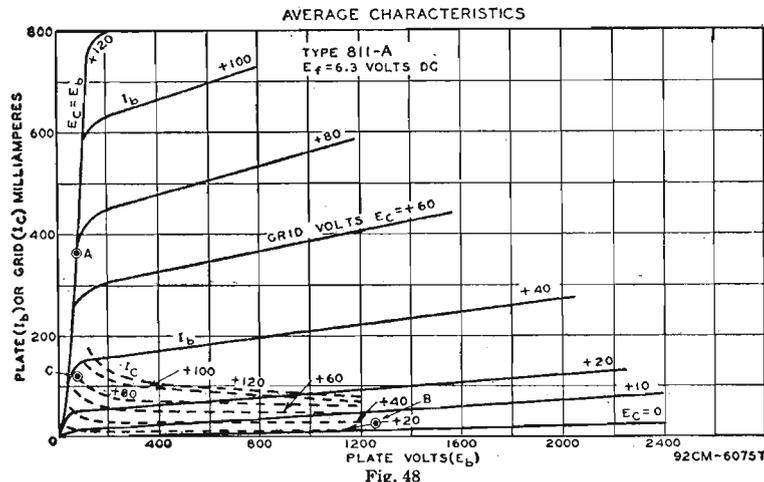

Fig. 48
Calculate operating values for the RCA-811A for linear rf power amplifier service under ICAS conditions. Refer to Fig. 48 for curve values.
- (1) Select $E_b = 1250$ volts.
- (2) Calculate: $I_{be} = 0.9 P_{ine}/E_b = 0.9 \times 165/1250 = 0.12$ ampere.
- (3) Calculate: $I_{bmax} = 3 I_{be} = 3 \times 0.12 = 0.36$ ampere.
- (4) Calculate: $I_b = I_{be}/1.4 = 0.12/1.4 = 0.09$ ampere.
- (5) On Fig. 48 locate $I_{bmax} = 0.36$ ampere at Point A. Read $E_{cmax} = 80$ volts; $E_{bmin} = 80$ volts.
- (6) Calculate $I_{b0} = I_{be}/5 = 0.12/5 = 0.024$ ampere.
- (7) $P_{ine} = E_b I_{be} = 1250 \times 0.120 = 150$ watts.
- (8) Calculate: $PEP = (I_{bmax}/4)(E_b - E_{bmin}) = (0.36/4)(1250 - 80) = 0.09(1170) = 105$ watts.
- (9) $P_d = 0.7 P_{ine} - 0.5 PEP = (0.7) 150 - (0.5) 105 = 52.5$ watts.
- (10) Record: $E_g = E_{cmax} = 80$ volts.
- (11) On Fig. 48 locate $I_{cmax} = 0.12$ ampere at Point C.
- (12) Calculate: $I_{ce} = I_{cmax}/3 = 0.12/3 = 0.04$ ampere.
- (13) Calculate: $I_c = I_{ce}/1.4 = 0.04/1.4 = 0.028$ ampere.
- (14) Calculate: $P_d = E_g(I_{cmax}/4) = 80(0.12/4) = 2.4$ watts.